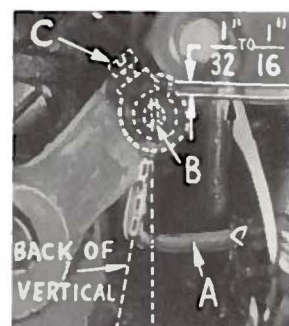

Fig. 8
Insert upper spreader (A, Fig. 8) in its holder. Screw (B) holds upper spreader in its holder, and permits it to be pushed in or out, or turned around its shank. Insert spreader holder into spreader shaft, if it is not already in place. Screw (C, Fig. 8) on collar holds spreader holder in the shaft, and allows holder to be rotated or adjusted laterally.
Preliminary Setting: When upper spreader is at the right end of its stroke, spreader holder should be set to position spreader shank slightly back of vertical (Fig. 8). Top end of spreader shank should extend $\frac{1}{32}$ to $\frac{1}{16}$ inch above the spreader holder (Fig. 8).